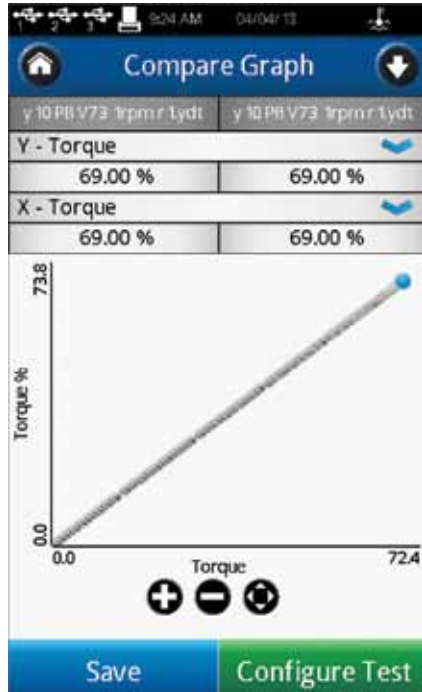

Figure IV-9
**Compare Results:** Load two data sets and view side by side (see Figure IV-9).